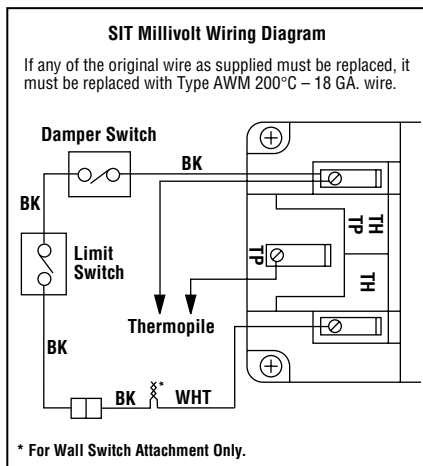

Figure 11
A. Millivolt Wiring – The gas valve has been set in place and has been pre-wired at the factory. No additional wiring is required unless the optional wall switch or optional remote control kit is to be installed. Locate the optional wall switch or optional remote control in the desired location and connect the millivolt wire (see Figure 11).